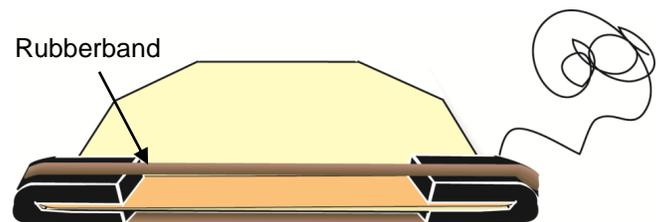

Figure 3
- 5** Stretch the rubber band over the foam covered ends of the craft stick as shown. Make sure the rubberband is not twisted. See figure 3.